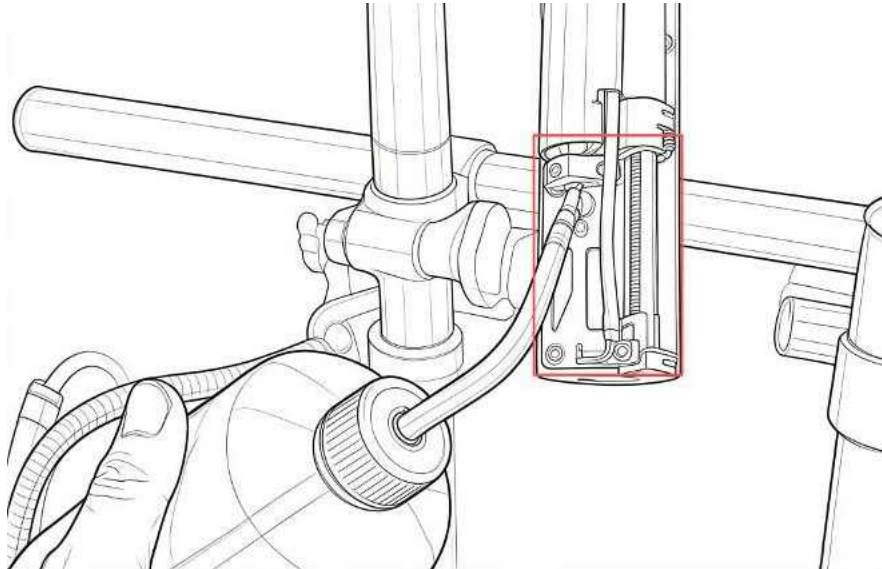

Figure 6-1 Printhead Rinsing Locations Schematic
3. **Rinse Components:** Use the squeeze bottle to gently rinse the charge electrode, deflection plates, and gutter surfaces with cleaning solvent until no visible ink residue remains (see Figure 6-1 for rinsing locations).